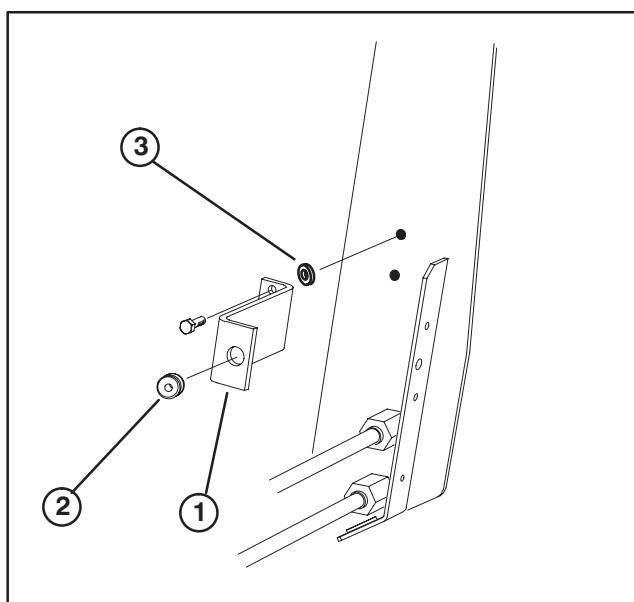

Figure 8
10. Mount support bracket to radiator mount with (2) 5/16-18 x 7/8" lg. capscrews, 3/16" thk. washers and locknuts. Insert a rubber grommet into hole of bracket (Fig. 8).